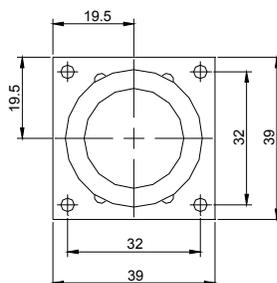
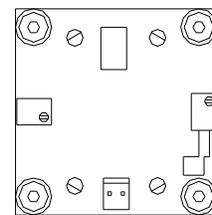

Figure 1. Outer mounting hole locations.
Figure 2. Inner and outer mounting holes.
Transmitters are mounted to your housing using the four pillars pre-mounted to the PCB. Two sets of mounting holes are provided so that the sensor/PCB can be fixed to either the housing top (using the locating holes in the corner of the PCB) or to the base of the housing (using either set of locating holes). Figure 1 below shows mounting hole locations (dimensions are in mm). Figure 2 diagrams the sets of locating holes; normally the outer holes are used for mounting, while the inner e in the same location as the earlier issue of this PCB, allowing backward compatibility with the earlier PCB design.
- 3 Apply zero gas for 10 minutes at the flow rate shown in Table 2. Using a small screwdriver, adjust the zero potentiometer (RP2) until the reading is 4.00 ± 0.05 mA. See figure 1, attached to this manual.